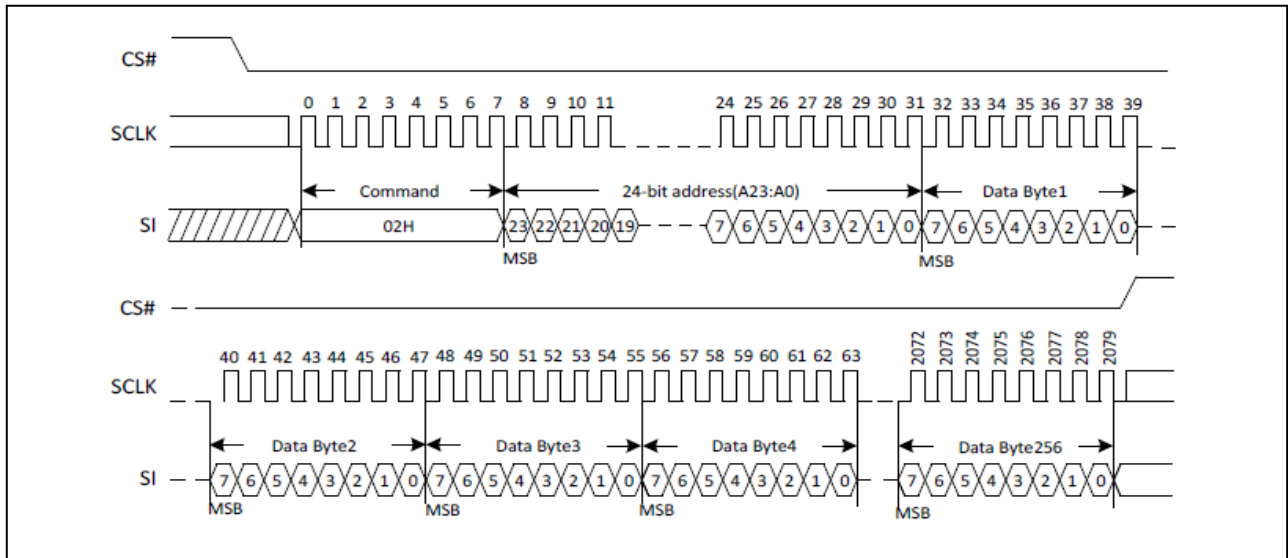

Figure14. Page Program Sequence Diagram
The Page Program (PP) command is entered by driving CS# Low, followed by the command code, three address bytes and at least one data byte on SI. If the 8 least significant address bits (A7-A0) are not all zero, all transmitted data that goes beyond the end of the current page are programmed from the start address of the same page (from the address whose 8 least significant bits (A7-A0) are all zero). CS# must be driven low for the entire duration of the sequence. The Page Program command sequence: CS# goes low → sending Page Program command → 3-byte address on SI → at least 1 byte data on SI → CS# goes high. The command sequence is shown in Figure14. If more than 256 bytes are sent to the device, previously latched data are discarded and the last 256 data bytes are guaranteed to be programmed correctly within the same page. If less than 256 data bytes are sent to device, they are correctly programmed at the requested addresses without having any effects on the other bytes of the same page. CS# must be driven high after the eighth bit of the last data byte has been latched in; otherwise the Page Program (PP) command is not executed.